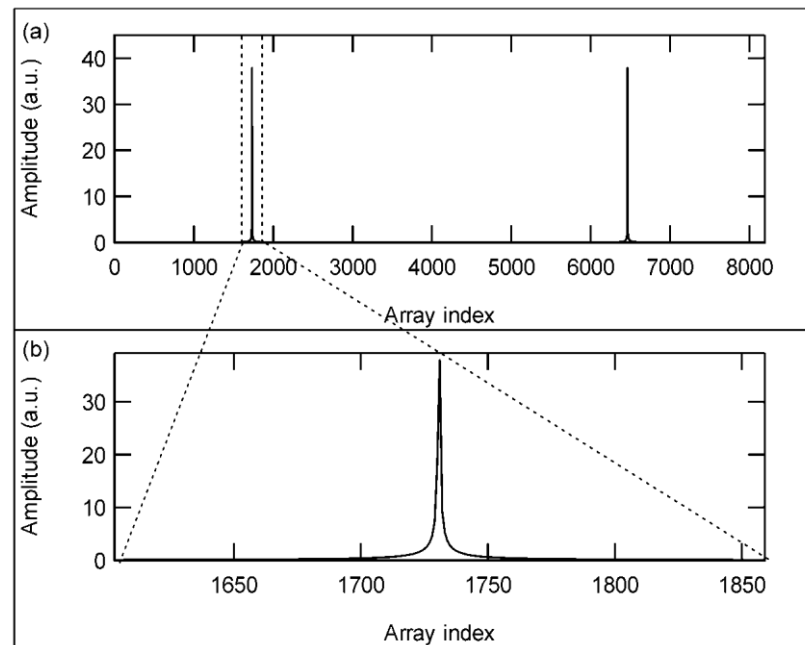

Figure 9-17. (a) The Fourier transform of interference fringes.
The Fourier transform of reflected optical intensity (I) for a short length of single-mode fiber as the DUT is plotted in Figure 9-17 (a). Figure 9-17 (b) shows the selected segment that contains the device information. Because the initial data was acquired as a function of optical frequency, ω , the transformed data is a function of time. For this reason, the transformed data is referred to as time domain data.
The length of the segment in Figure 9-17 (b) can be controlled by the user by simply scaling the X-axis (see “Scaling Plot Axes” on page 63). This length determines the sample resolution of the frequency domain data according to the Fourier transform relationship